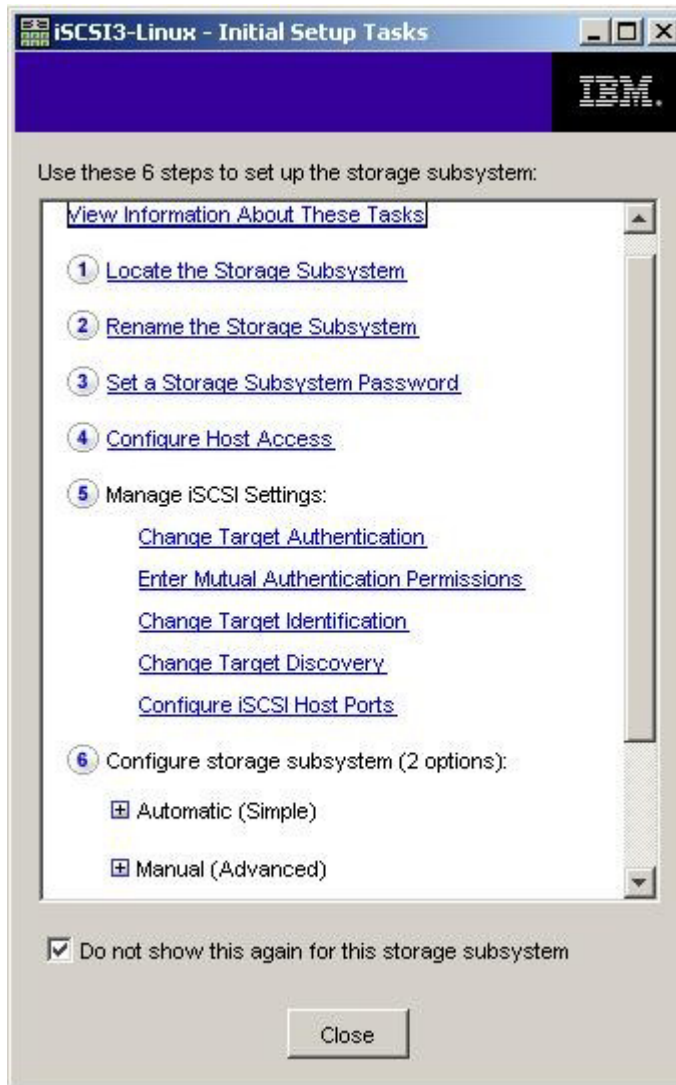

Figure 10. Initial Setup Tasks window in the Subsystem Management window
3. On the **Summary** page, click **Perform Initial Setup Tasks**. The Initial Setup Tasks window opens, as shown in Figure 10 on page 82.